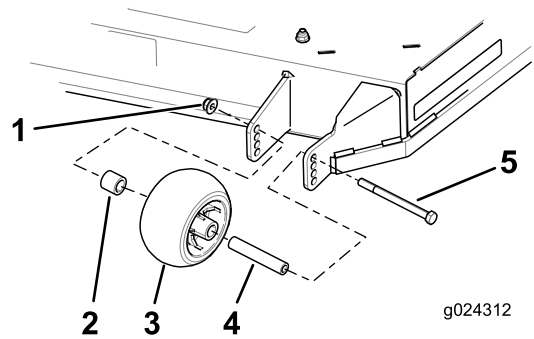

Figure 29
3. Remove the flange nut, anti-scalp roller, and bolt from the bracket (Figure 29).
4. Align the bolt and anti-scalp roller in the hole of the bracket that matched the closest height-of-cut position (Figure 29).
5. Insert the bolt into the bracket hole and secure the bolt and anti-scalp roller with the flange nut (Figure 29).